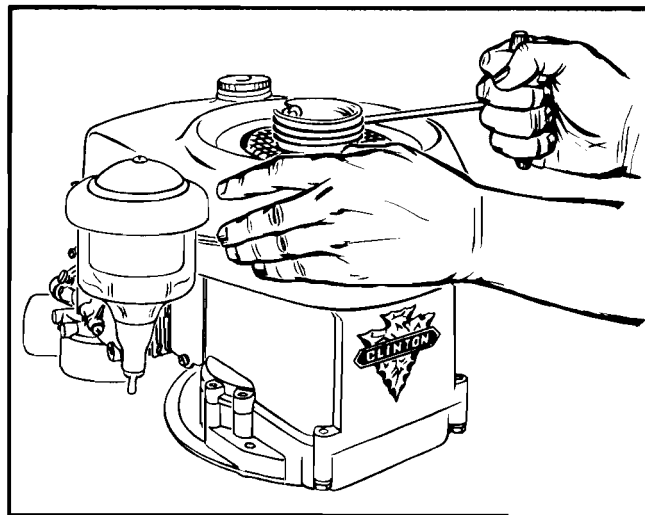

Figure No. 2
4. Open the choke wide and with two sharp pulls on the rope or recoil starter the engine should start. See Figures No. 2 and 3.